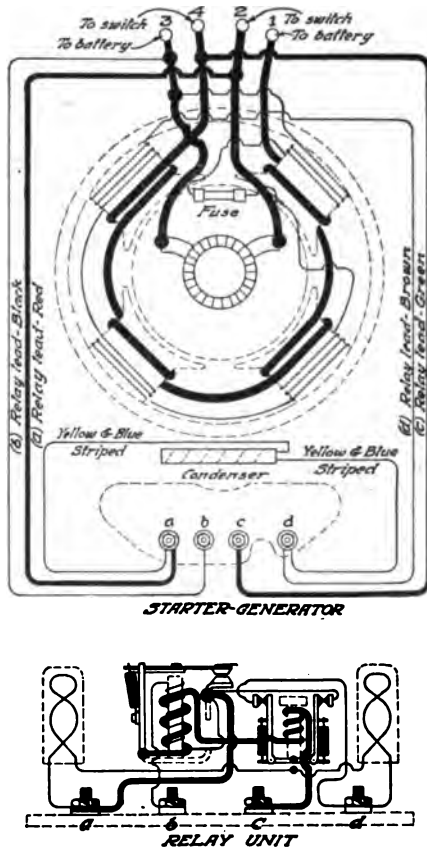
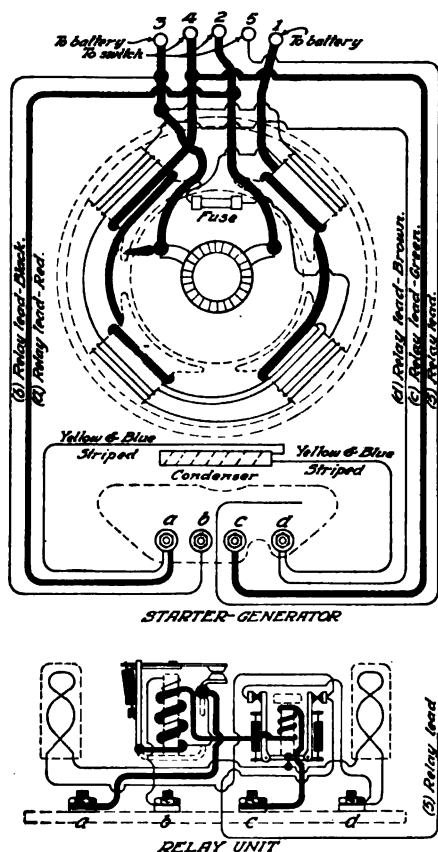

Fig. 304. Internal Wiring Diagram for North East Model "B" Starter-Generator
Fig. 305. Internal Wiring Diagram for Model "D" and Model "F" Starter-Generators
Looking at the starter-generator from the driving sprocket end, the main terminals 1, 2, 4, and 3 of the starter-generator are considered as being numbered in anti-clockwise rotation, Fig. 304. Viewing
**Five-Terminal Type Unit.** The connections on the five-terminal type generator-starter unit are made as follows: Looking at the starter-generator, Fig. 305, from the driving sprocket end, the main terminals 1, 5, 2, 4, and 3, respectively, of the unit are numbered in anti-clockwise rotation (to the left). Viewing the relay unit as
mounted on the starter-generator with the master relay at the left, the four binding posts *a*, *b*, *c*, and *d* are designated from left to right as shown in the illustration. Proceed with the instructions as given for the four-terminal type starter-generator as given. The new type relays 1196 and 1197 are regularly furnished with local connections, as shown in Fig. 304,
but it will be necessary to make the following alterations when applied to the five-terminal type starter-generator, so that the relay connections will conform to the diagram in Fig. 305. Remove the jumper lead that connects the frame of the master relay to the rear contact terminal on the limiting relay; remove from relay binding post *a* the left-hand resistance-unit lead. Lengthen this lead by splicing a piece of the same kind of wire to it, and solder it to the limiting relay contact terminal, from which the jumper has been removed. To this terminal must also be soldered the lead coming from starter-generator terminal 5. (In some starter-generators this lead includes the field fuse.)
The condenser in the early models is mounted between the field coils. One condenser lead must either be connected to the relay binding post *a* as shown in either Fig. 304 or Fig. 305 or be spliced to the wire leading to it. The other condenser lead must either be connected to the relay binding post *d* or spliced to the shunt-field wire leading to it.